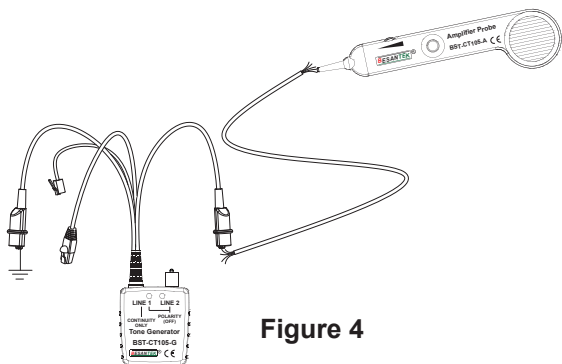

Figure 4
1. Connect the test leads to the pair, or attach one lead to ground and one lead to either side of the line.(See figure 4)